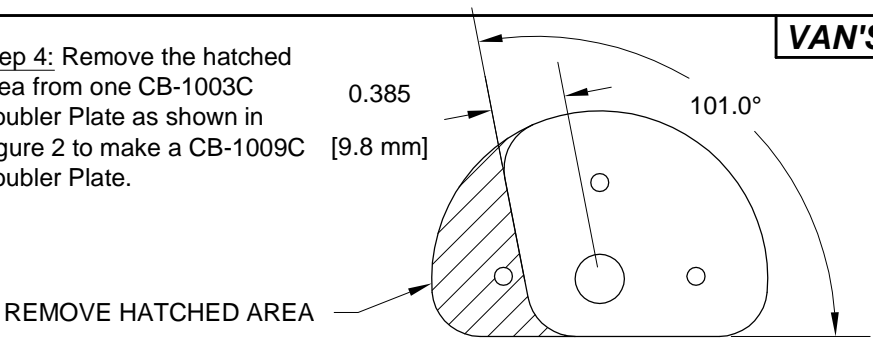

FIGURE 2: MAKING CB-1009C
Step 4: Remove the hatched area from one CB-1003C Doubler Plate as shown in Figure 2 to make a CB-1009C Doubler Plate.